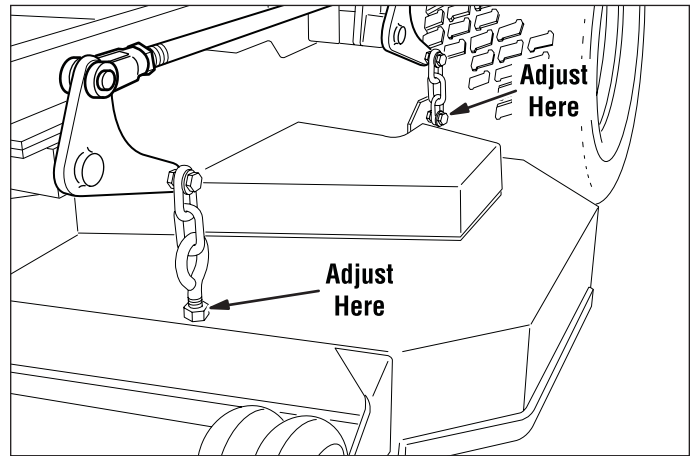

Figure 11. Hanger Chain Adjustment
6. Adjust the front eyebolts until the chains are tight and the deck is still resting on the 2 x 4's. Tighten the jam nuts. See Figure 11.
7. Loosen the nuts and allow the rear of the deck to rest on the 2 x 4's and 1/4" spacers. Slide the chains down in the slots until the chains are tight and tighten the nuts. See Figure 11.